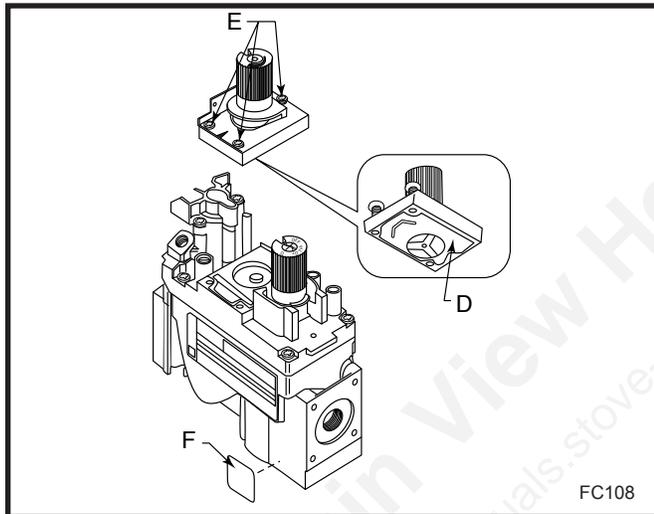

Fig. 31 Replace regulator.
2. Insure the rubber gasket (D) is properly positioned and install the new HI/LO pressure regulator assembly to the valve using the new screws (E) supplied with the kit. Tighten the screws securely. (Ref. torque = 25 in/lb) (Fig. 31)
3. Install the enclosed conversion label (F) to the valve body where it can easily be seen. (Fig. 31)